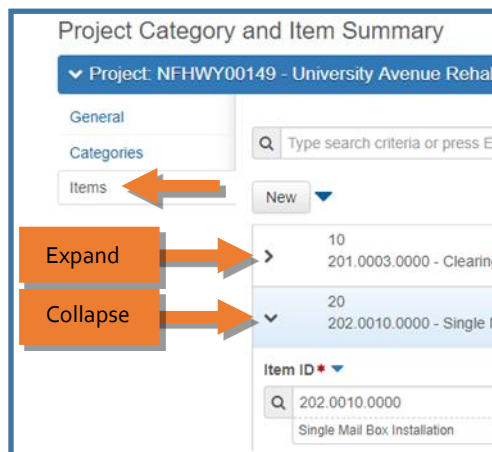

Figure 3.32
3. Select the **Items** tab (*Figure 3.32*).